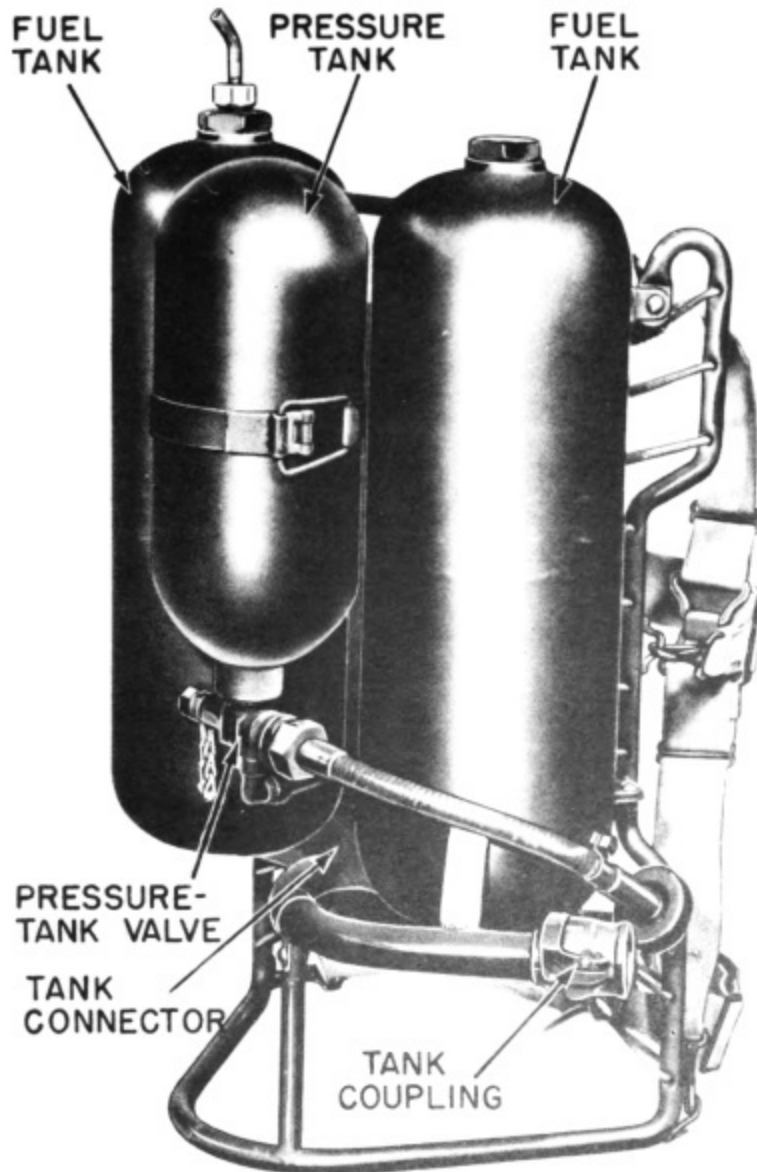

Fig 4. Tank group.
g. Charging and filling. In order to replace pressure tanks (cylinders) of earlier types of flame throwers, it is necessary to unscrew and screw threaded connections. Experience has shown that this frequently resulted in damage to threads, leakage, loss of pressure, and loss of range. It is also necessary to use tools to replace each pressure tank (cylinder). The design of the M2-2 flame thrower eliminates these difficulties. The tank group (Fig 4) may be charged and filled as a unit with or without gun and hose. The quick-connecting tank coupling permits rapid interchanging of empty and